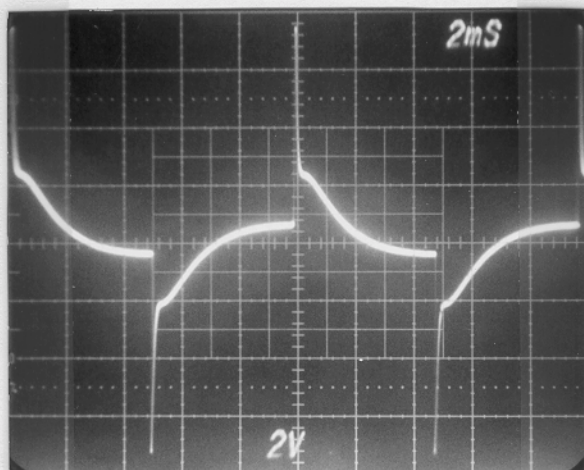
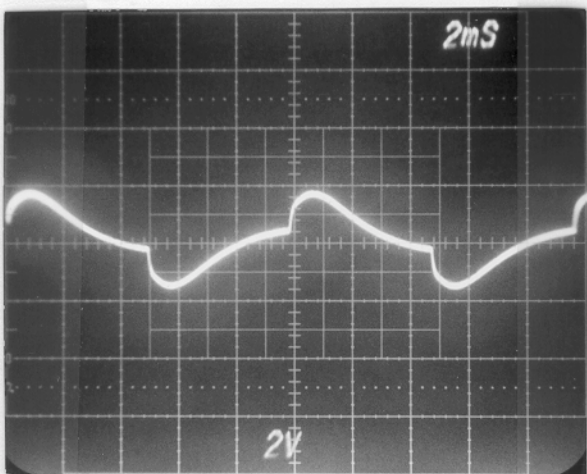

Fig. 2. Treble to 10.
Fig. 3. Treble to 0.
- A) Treble to 10- Fig. 2; Treble to 0- Fig. 3